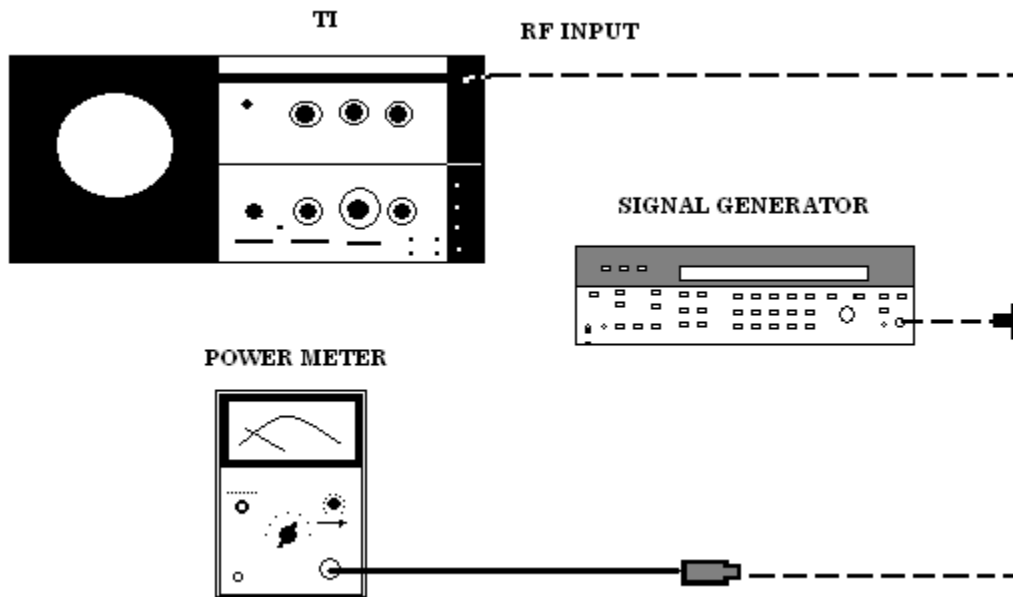

Figure 7. Frequency response (10 to 110 MHz) - equipment setup.
(7) Return signal generator frequency to 10 MHz and note exact amplitude on display.
(8) Connect equipment as shown in figure 7.
(9) Position TI controls as listed in (a) through (d) below: